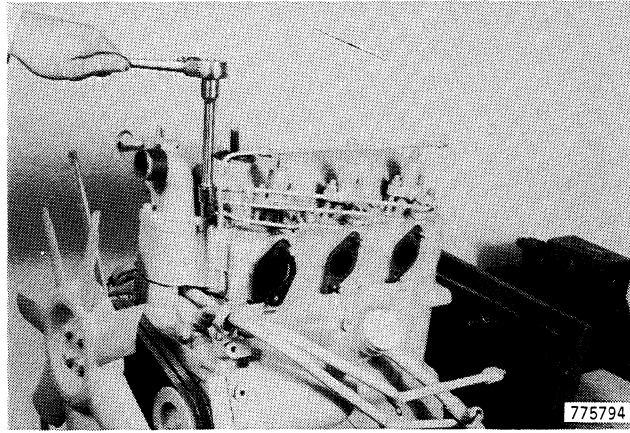

Figure 48
23. Remove the cap screw that holds the injector return tube clamp, Figure 48.